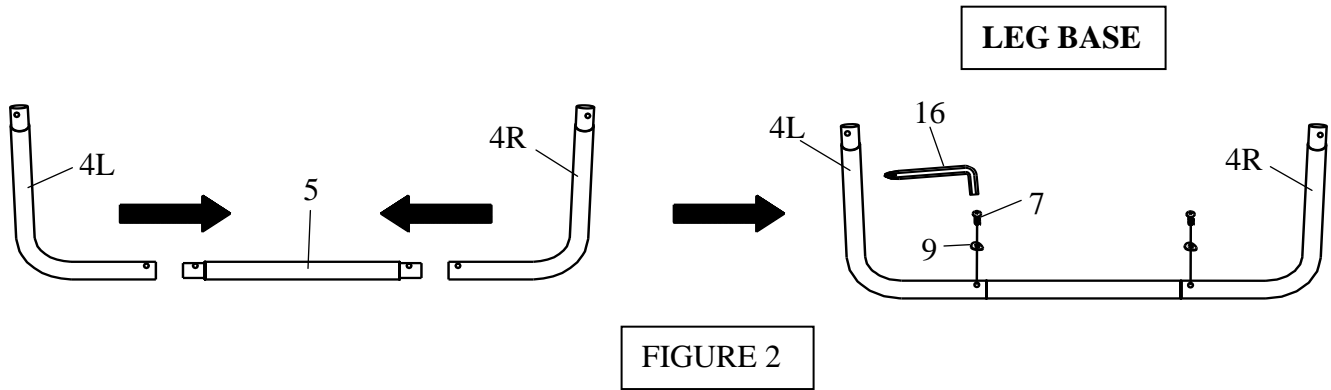

FIGURE 2
STEP 2 – Slide CURVED LEG TUBE (#4L and #4R) into GROUND LEG TUBE #5 as shown in FIGURE 2. Secure using ARC WASHER #9 and SHORT BOLT #7 with ALLEN WRENCH #15. Do same installation for all 4 sets of “LEG BASE”.